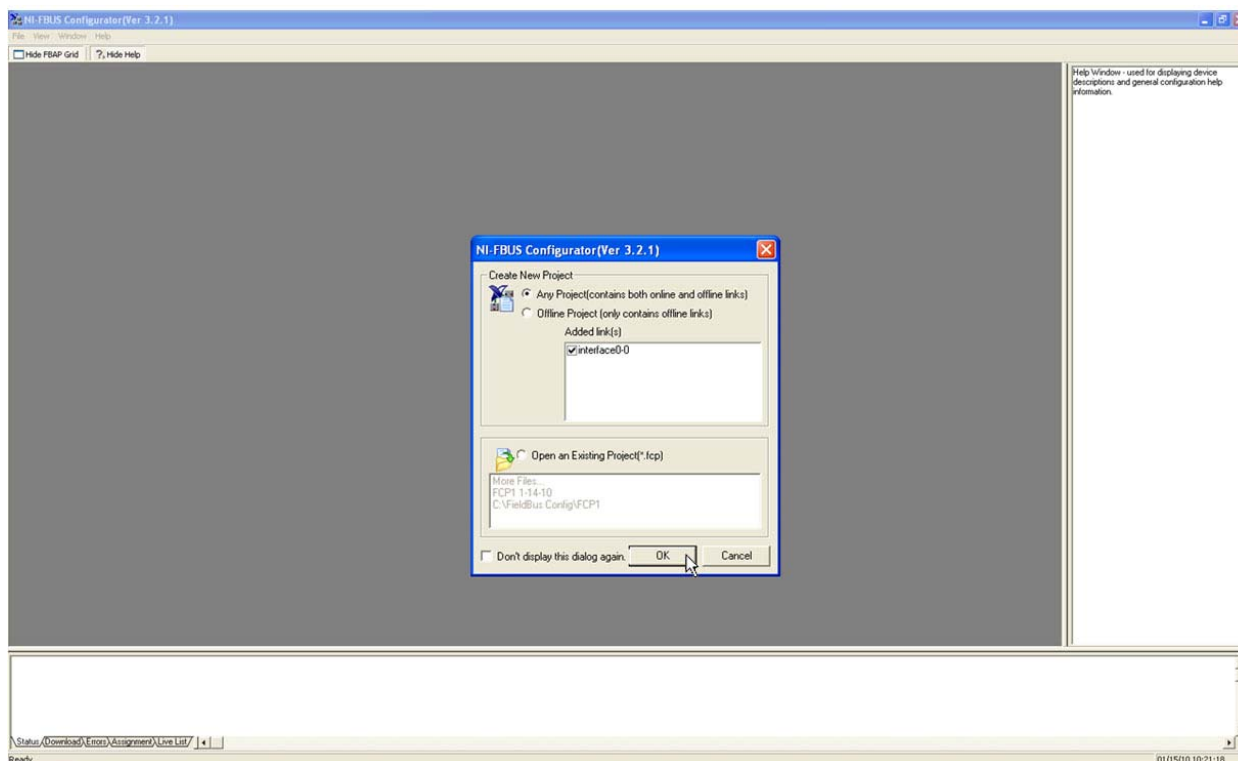

Figure 3–1. The NI-FBUS Configurator dialog box
4. Reference Figure 3–2 for this step.